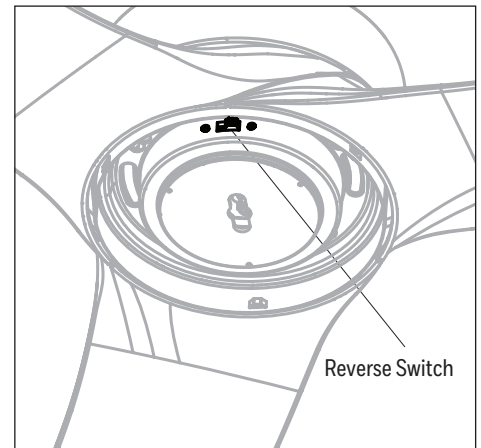

Figure 6.3
3. Using a ceiling fan will allow you to raise your thermostat setting in summer and lower your thermostat setting in winter without feeling a difference in your comfort (Figure 6.3).